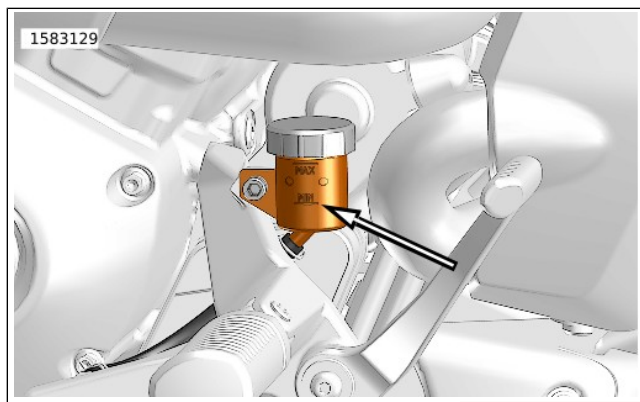

Figure 49. Rear Master Cylinder Reservoir MIN Level
3. **Rear:** See Figure 49 Check level on side of rear brake reservoir. Level must be above minimum mark on side of reservoir.